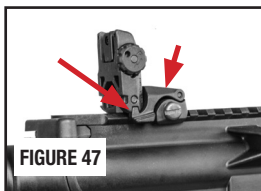
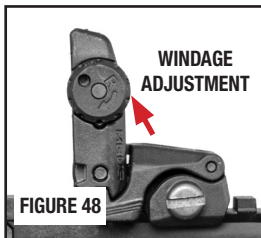

FIGURE 47
FIGURE 48
- The MagPul® MBUS® spring-loaded, folding rear sight (FIGURE 46) is a dual aperture rear sight that is adjustable for windage (FIGURE 48). Turn the knob right to change the bullet impact to the right. The sight flips up by pressing the tab from either side or by pressing the central area on top (FIGURE 47). The sight can be folded with either large or small aperture in position.